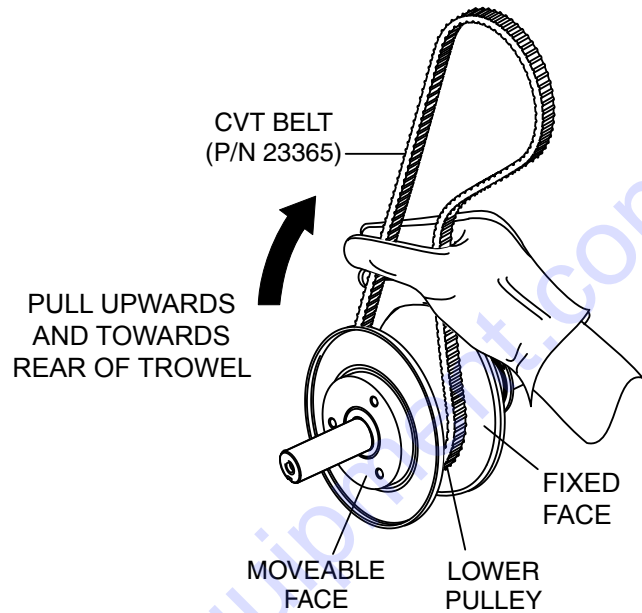

Figure 30. Holding Lower Pulley Open
1. Place new CVT belt over the lower pulley. Squeeze the belt (Figure 30) and pull the belt upwards and towards the rear of the trowel. This will spread open the faces of the lower drive pulley.